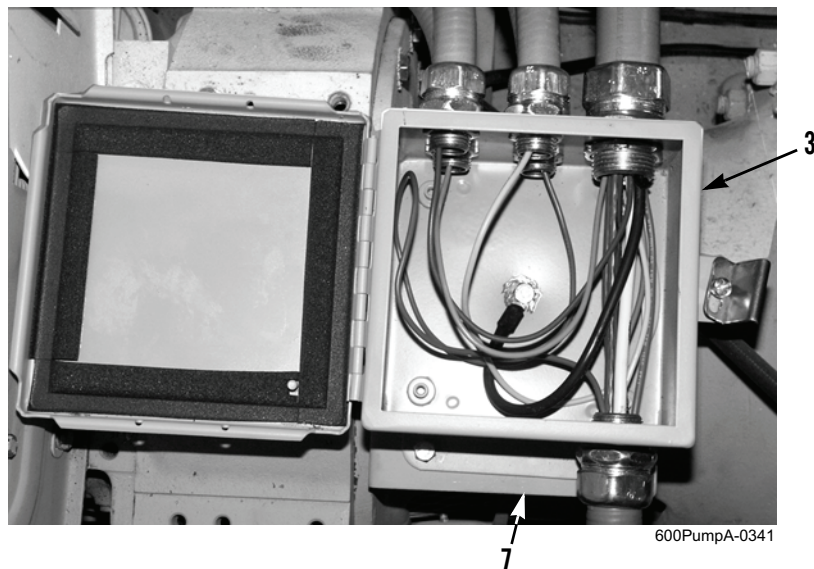

Figure 7. Wiring Harness Junction Box.
13. Remove engine/control panel wiring harness with wiring harness junction box (Figure 7, Item 3) from pump assembly.
1. Position engine/control panel wiring harness with wiring harness junction box (Figure 7, Item 3) on pump assembly. Place junction box on mounting bracket (Figure 7, Item 7) at pump intermediate housing and route wiring harness leads to points of connection.